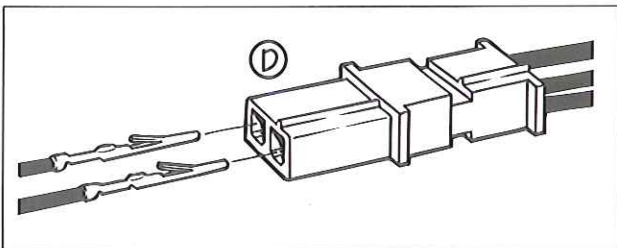

FIG. 13
5. Insert the yellow wire from the harness, Jacobs P/N 020217, into the pin housing on the same side as the yellow wire on the solenoid harness. Insert the blue wire into the other hole so that the blue wires are connected together (D) (see Fig. 13).